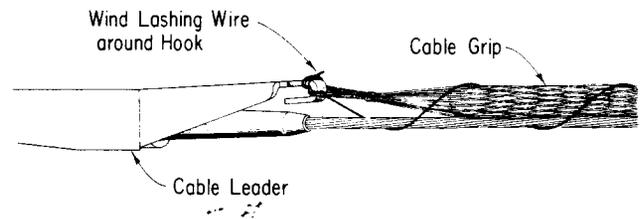

Fig. 3 — D Cable Leader With Cable and Strand Attached
2.03 To attach the cable to the cable leader, place a cable grip of the proper size on the cable and attach the eye of the grip to the hook provided on the cable leader as shown in Fig. 3.